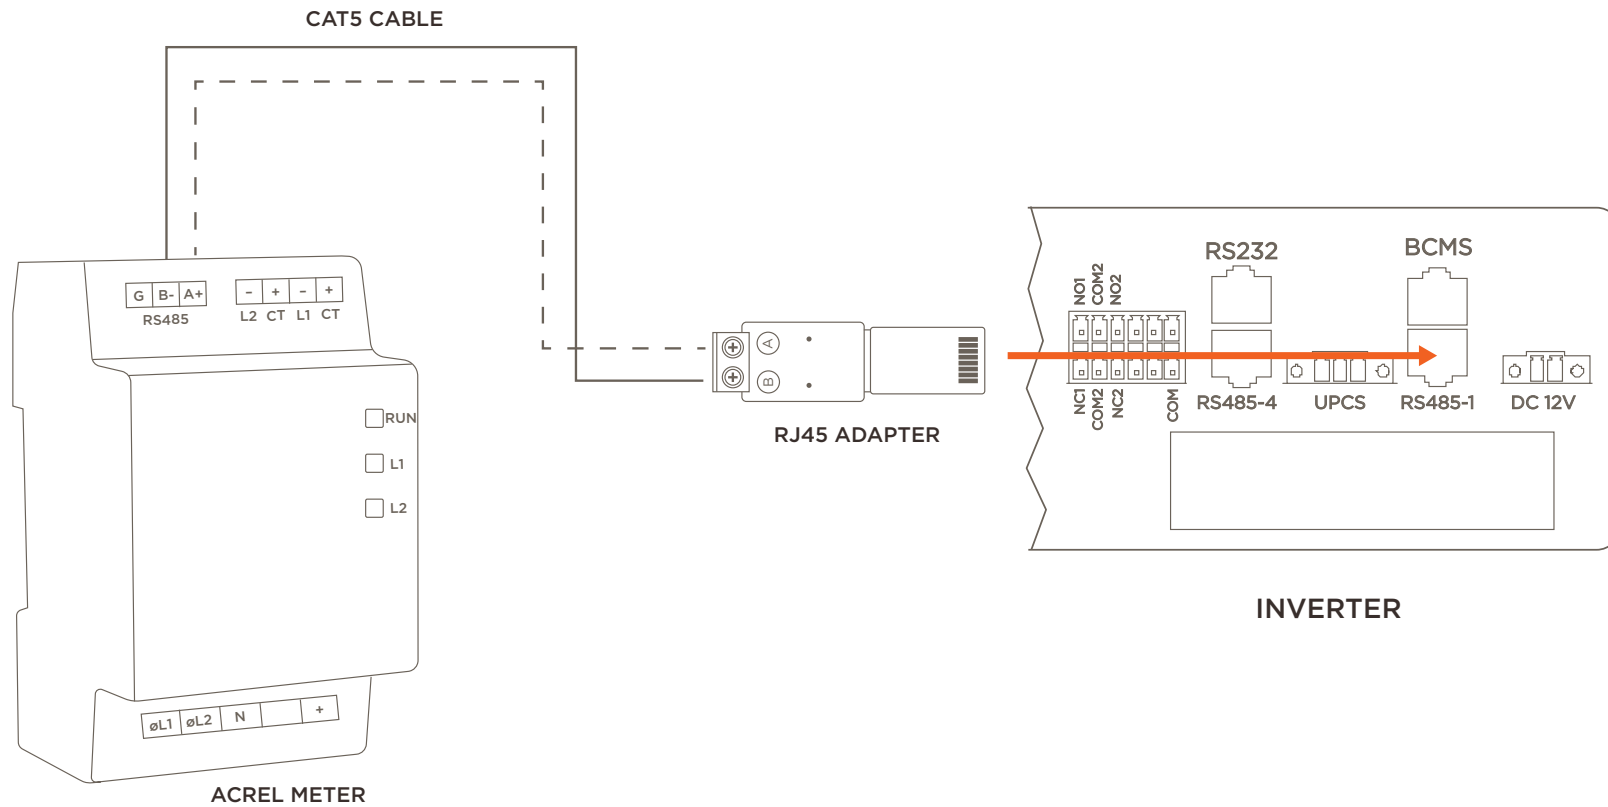

Figure 13a: RJ45 Adapter Connections
1. Utilize a CAT5 cable to connect A+ and B- terminals on the RJ45 Terminal Adapter to the corresponding terminals on the Acrel Meter. (See Figure 13a)
2. Connect RJ45 Terminal Adapter to the RS485-1 input on the Power Storage Inverter. (See Figure 13a)